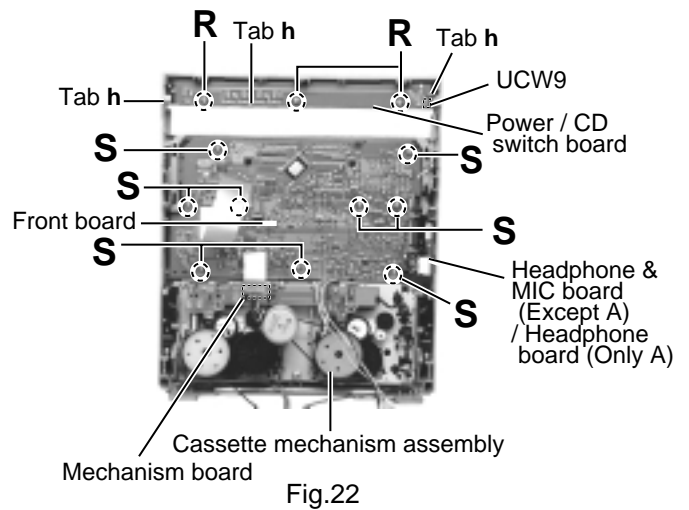

Fig.22
■ Removing the power / CD switch board (See Fig.22)
■ Removing the front board (See Fig.22 and 23)